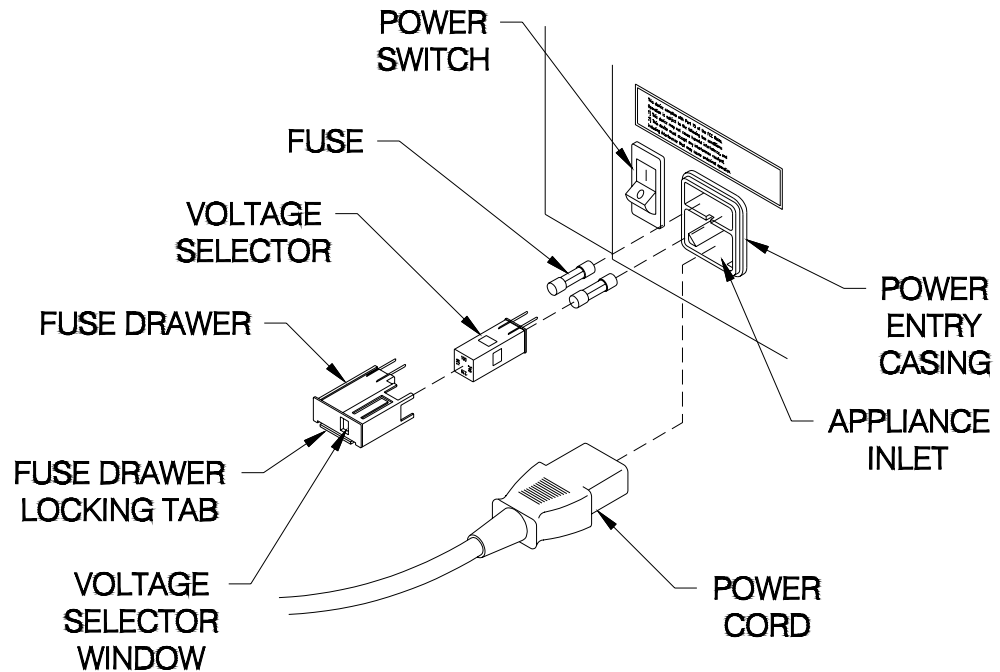

Figure 4.1 -- FD 150 Power Connection
Read the selected voltage through the VOLTAGE SELECTOR WINDOW at the input end of the FD 150. (Refer to **Figure 4.1.**) To select a different voltage, use the following instructions:
The FUSE DRAWER, located on the input end, contains two LINE FUSES. (Refer to **Figure 4.1.**) The neutral and hot lines of power are fused. Both LINE FUSES must be in place for the FD 150 to operate properly.
1. Plug the POWER CORD into the APPLIANCE INLET on the non-operator side. (Refer to **Figure 4.1.**)